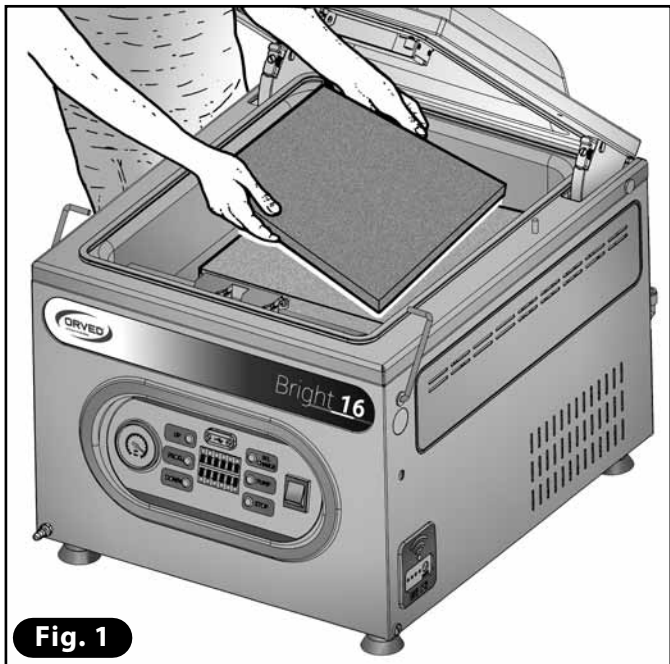

Fig. 1
- 4) Take the PE shelves out of the tank (**Fig. 1**).